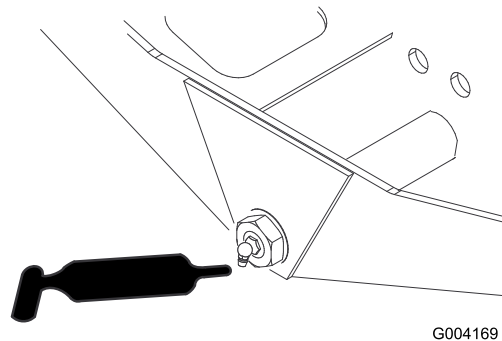

Figure 43
- Axle steering pivot (1) (Figure 43)